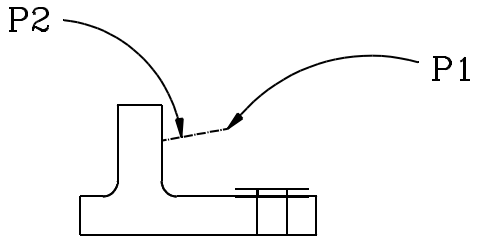

Figure 13
52. Click on points P1 and P2. (See Figure 13.)